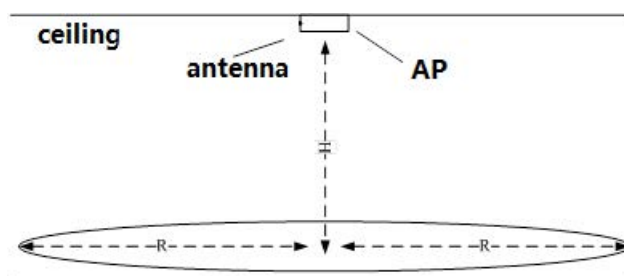

Figure 3-1 HS\_C09959 installation
In actual use, HS\_C09959 should be installed in a higher position to achieve better transmission and coverage. Moreover, the higher the installation height, the smaller the device spacing should be, as shown in Figure 3-1.
- When the shelf height is  $\leq 3\text{m}$ , H in Figure 3-1 is recommended to 3m ~ 5m, and the coverage radius R is 10 ~ 15m. It is recommended that the installation distance of two Hanshow APs is about 25m, and at least 5m;
- When the shelf height is 3 ~ 5m, H in Figure 3-1 is recommended to 5 ~ 8m, and the coverage radius R is 7 ~ 12m. It is recommended that the installation distance of two Hanshow APs is about 20m and at least 5m.